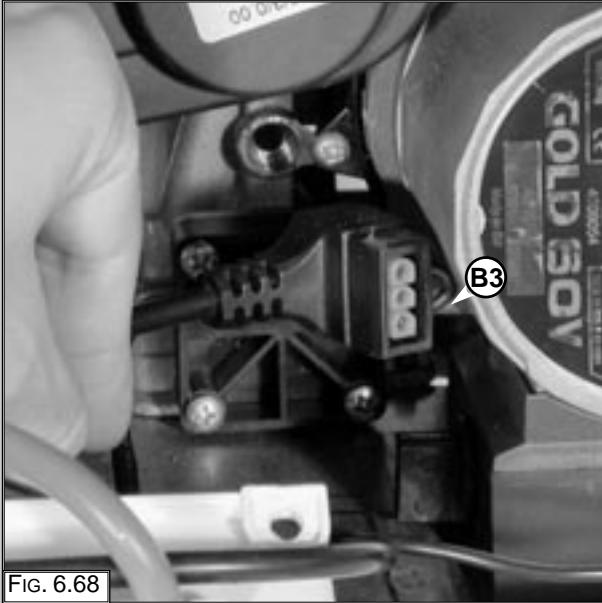

FIG. 6.68
1. Unplug the electrical connection "B3" (Fig. 6.68);